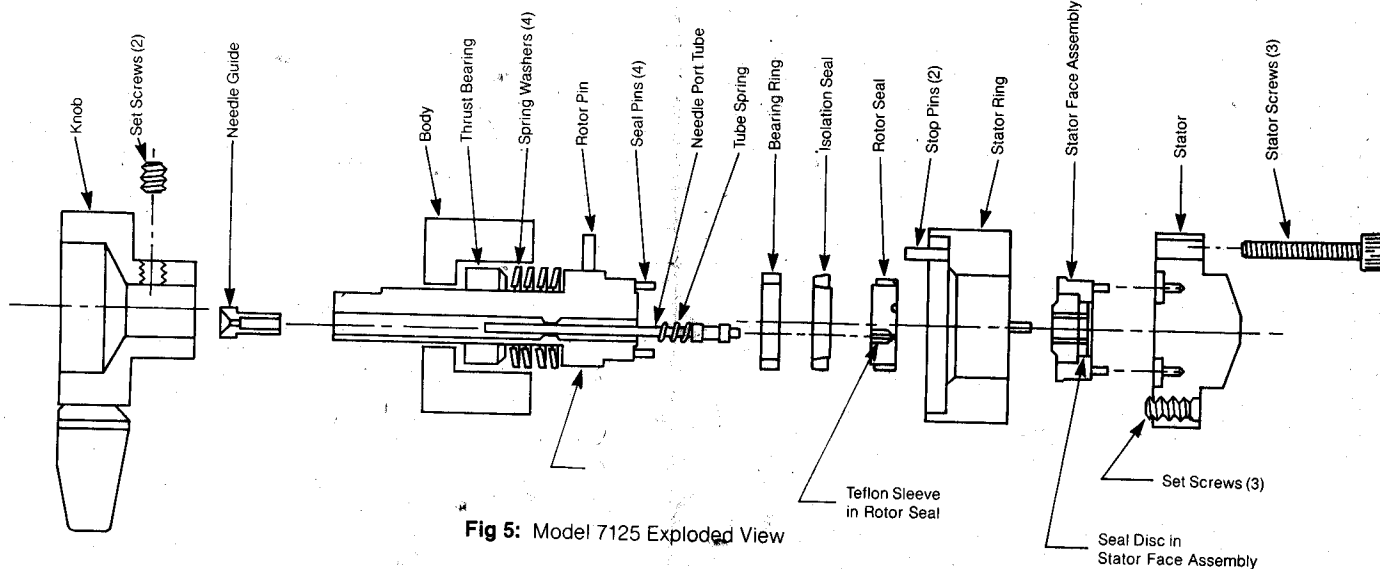

Fig 5: Model 7125 Exploded View
b) Remove the three stator screws (refer to Figure 5). Do not change the setting of the set screws in the stator at this time.
Reassembly of the valve requires putting all parts back together as shown in Figure 5 while observing the following: